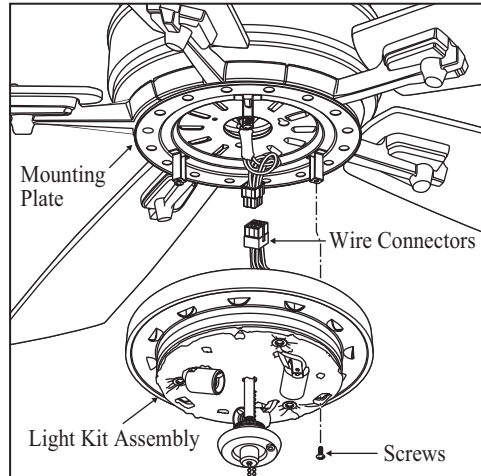

Figure 15
3. Place the key holes on the light kit assembly over the 2 screws previously loosened from the mounting plate, turn light kit assembly until it locks in place at the narrow section of the key holes. Secure by tightening the 2 screws previously loosened and the one previously removed. (Fig. 15)